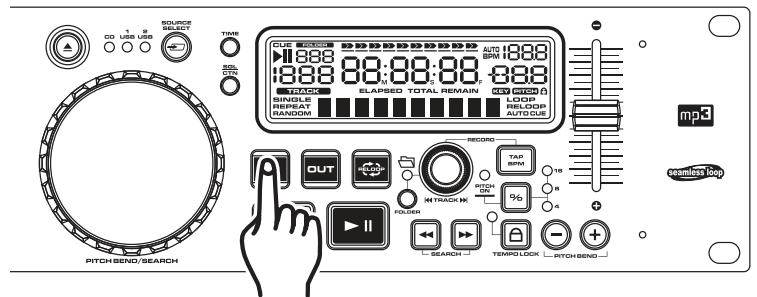

Figure 22
1) Press *PLAY/PAUSE BUTTON* (15) to activate playback mode.
2) Press the *IN BUTTON* (17). This will set the starting point of the SEAMLESS LOOP (figure 22). The *IN BUTTON* (17) will blink.